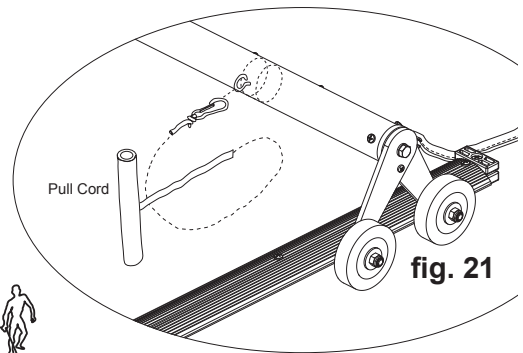

fig. 21
8.3 Attach the pull cords. (fig. 21 & 22)